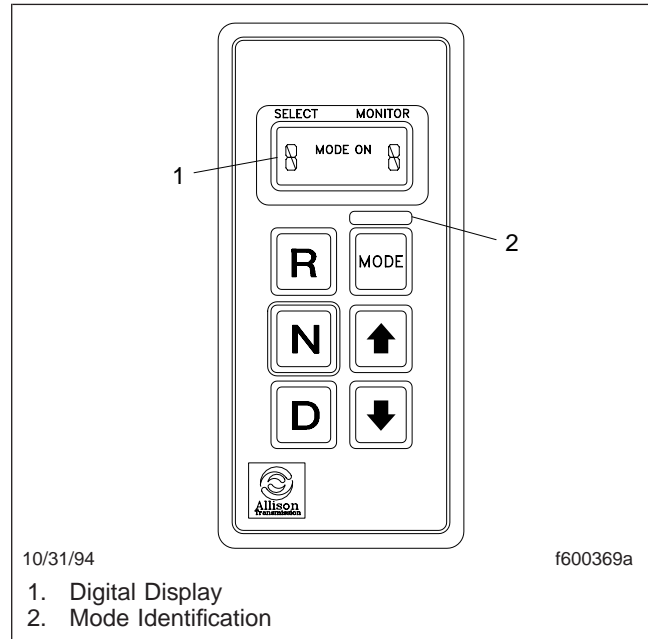

Fig. 5.4, Allison Push-Button Shift Selector
MD-series automatic transmissions have six forward speeds and one Reverse (R) speed. See Fig. 5.4. These transmissions have electronic shift controls that can be programmed to allow the use of different numbers of geared speeds. For instance, the transmission can be programmed to operate as a four-speed, five-speed, or six-speed unit in the "primary" shift mode. If needed, a "secondary" shift mode can be programmed to provide another shift configuration to optimize vehicle use under different operating conditions. To activate a secondary shift mode, or other special function programmed into the electronic control unit (ECU), depress the mode button. "Mode On" is displayed in the indicator panel just above the push-buttons. A label just above the Mode button identifies the special function.